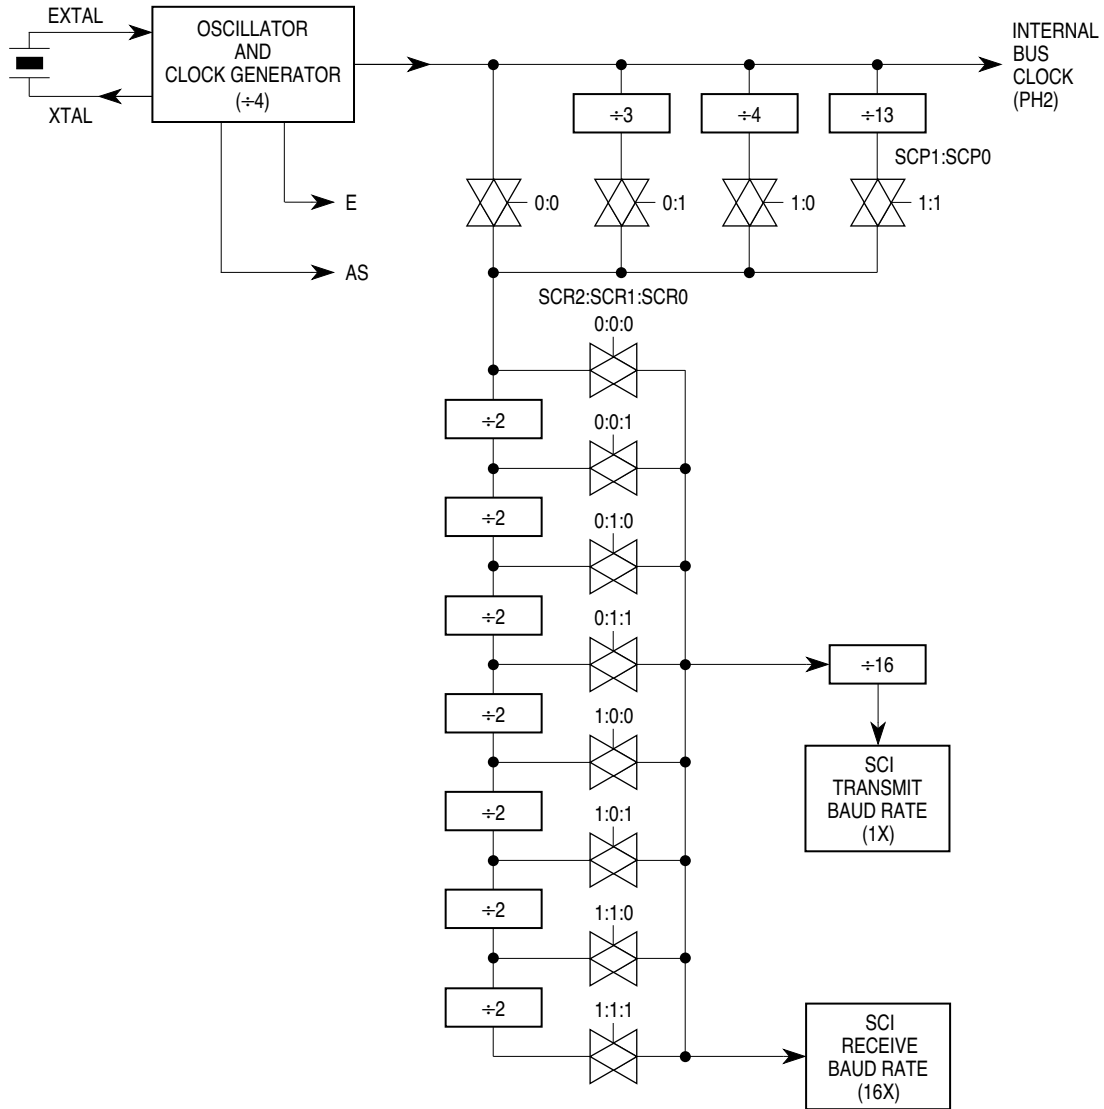
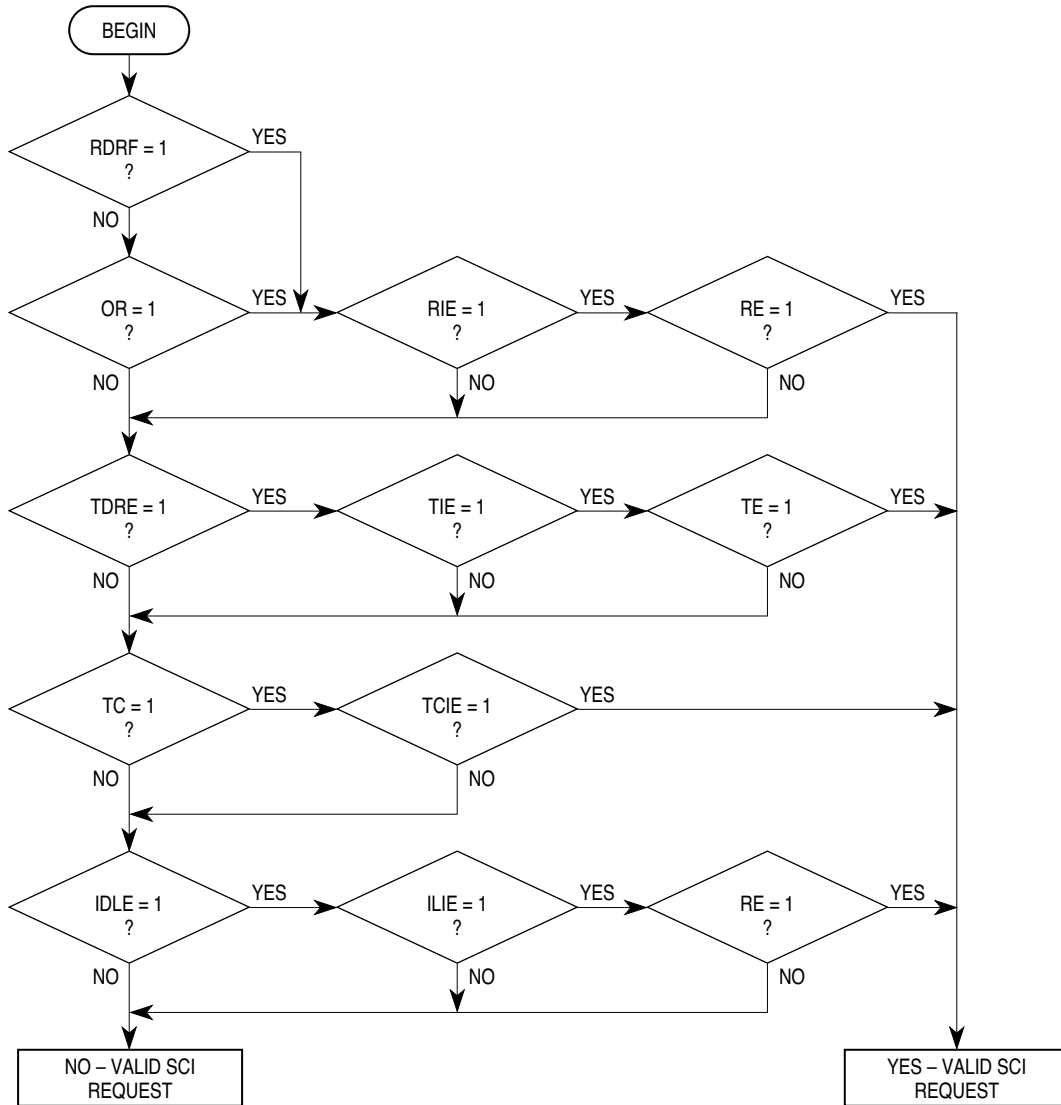

Figure 7-3 SCI Baud Rate Generator Block Diagram
Figure 7-4 Interrupt Source Resolution Within SCI
**Figure 7-3** and **Figure 7-4** illustrate the SCI baud rate timing chain. The prescaler select bits determine the highest baud rate. The rate select bits determine additional divide by two stages to arrive at the receiver timing (RT) clock rate. The baud rate clock is the result of dividing the RT clock by 16.
The SCI receiver has five status flags, three of which can generate interrupt requests. The status flags are set by the SCI logic in response to specific conditions in the receiver. These flags can be read (polled) at any time by software. Refer to Figure 7-4, which shows SCI interrupt arbitration.